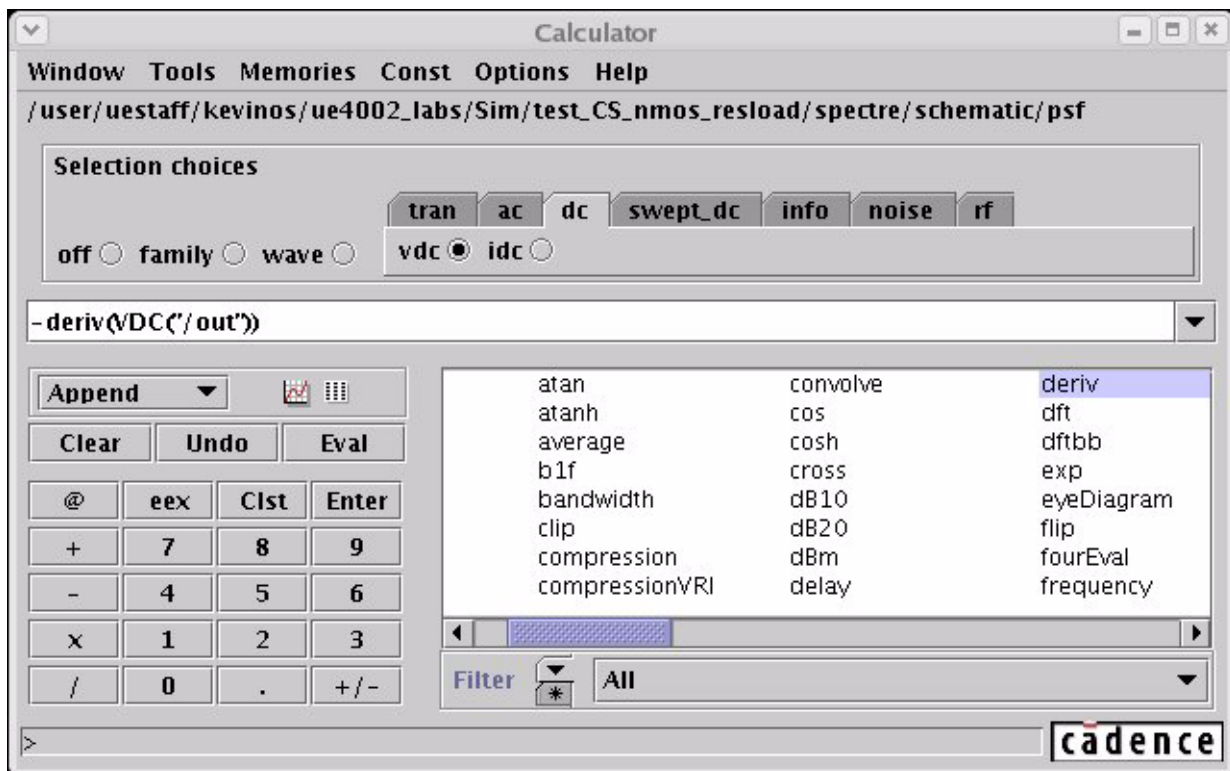

Figure 33: Calculator window with deriv function
- [6] In the Calculator with VDC("/ out") still in the buffer, select Special Functions/deriv. Edit to -deriv(VDC("/ out")). See Figure 33. Grab the expression -deriv(VDC("/ out")) in the Setting outputs window, and click on Add to add this output to the ADE Outputs section.